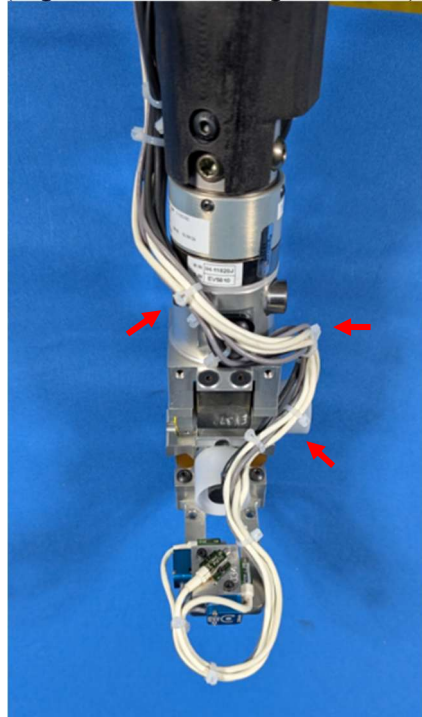
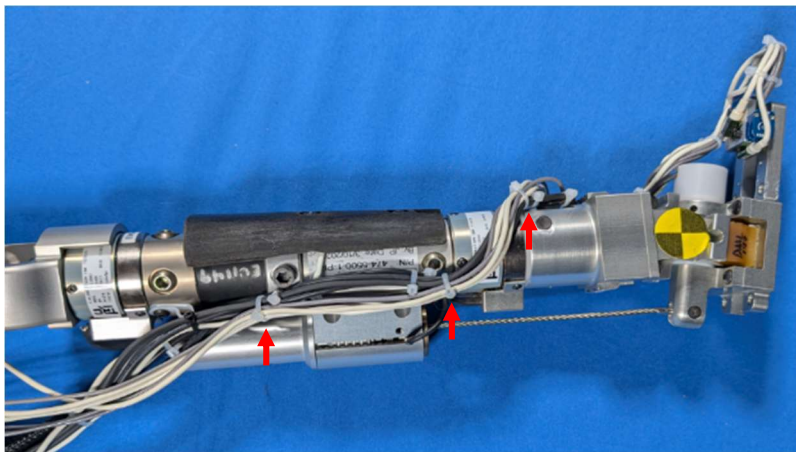

Figure 13-36. Foot wiring routed up the ankle and joined to the lateral lower-leg bundle (frontal view)
Figure 13-37. Foot wiring routed up the ankle and joined to the lateral lower-leg bundle (lateral view)
13.4.4.4 Route the foot wiring up the outside of the ankle, then across the front of the lower tibia load cell and into the existing lateral lower-leg bundle. Secure with tie wraps as needed (Figure 13-36 and Figure 13-37).